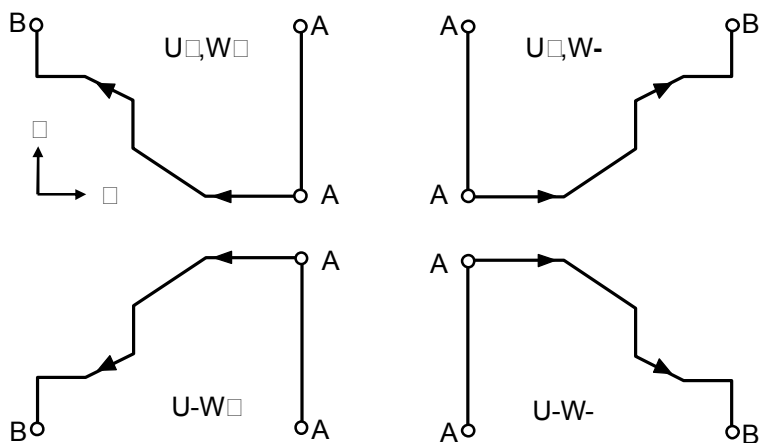

Fig. 3-34 G71 Rough Cut Canned Cycle
- (1) N(ns)~N(nf) specify the machining path of A1~B.
- (2) A maximum of 50 blocks can be inserted from N(ns) to N(nf).
- (3) No subprogram is available from N(ns) to N(nf).
- (4) No assignment of positioning commands on X-axis is allowed from A to A1.
- (5) The feed-rate from A to A1 is either G00 or G01.
- (6) The X and Z tool path from A1 to B must be incremental or decremental.
- (7) The cutting depth U(Δd) and retraction amount of rough cut R(e) are modal codes. They remain valid until another value is specified.
- (8) G71 is applicable to the following four cutting types. They are all parallel to the X-axis. Whether U and W are positive or negative (Fig. 3-34) is determined by the direction of tool path.